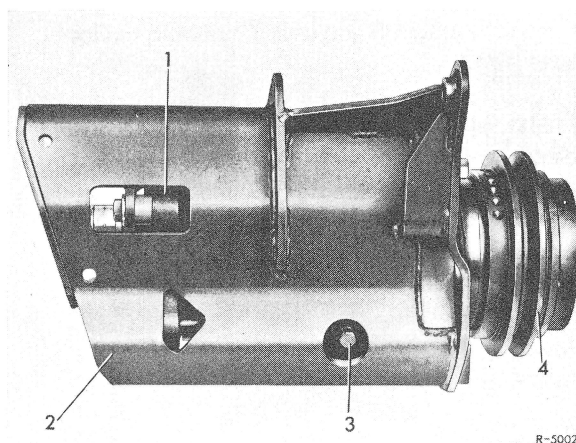

Figure 1
To check oil level, remove oil plug (3) and drain compressor completely of refrigeration oil. Then add 0.2 liters of refrigeration oil, replace plug and tighten. If the system was flushed with refrigerant R 11, add 0.3 liters of refrigeration oil (Fig. 1). Then check compressor for leaks. For details refer to Job No. 83.0–900.